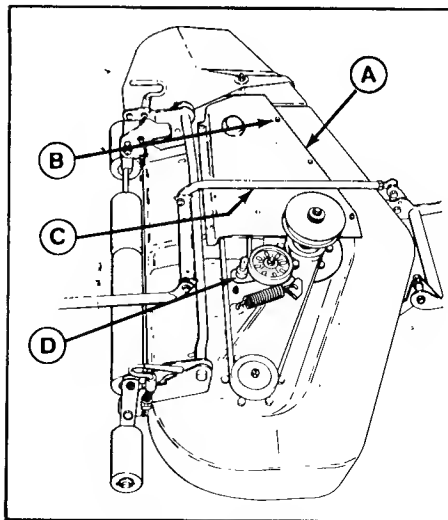

Figure 12. Idler Pulley Pivot
3. Remove the taptite screws to remove the right hand cover (both covers can be removed to check/clean inside of mower deck). See figure 12.